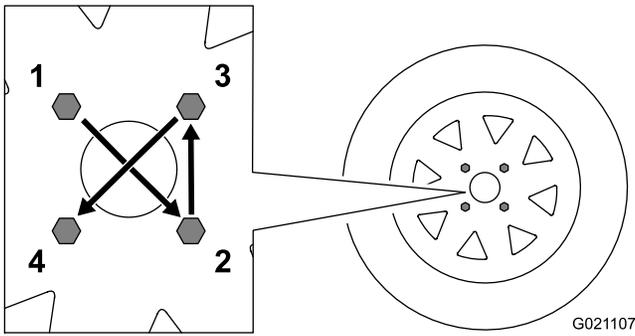

Figure 19
**Note:** Torque the lug nuts in the sequence shown in Figure 19.